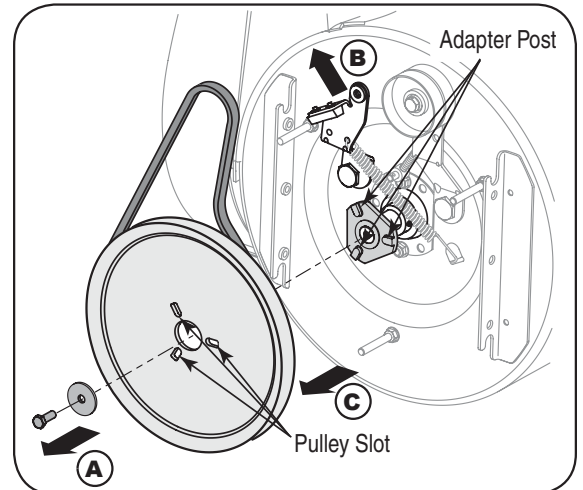

Figure 6-10
- Block the impeller with a piece of wood to prevent it from spinning and use a 1/2" wrench to remove the hex screw and washer from the center of the pulley on the auger housing. See Figure 6-10.
- Lift the brake bracket assembly out of the pulley groove and slide the pulley assembly off the posts of the auger pulley adapter to remove the old belt. Refer to Figure 6-10.
- Turn the pulley as necessary to align its three slots approximately with the posts of the pulley adapter, then move the brake bracket assembly away from the input shaft. While aligning the pulley slots and adapter posts, push the auger pulley fully onto the adapter. Refer to Figure 6-10.
**NOTE:** If the pulley adapter was removed with the pulley, align the splines of the pulley adapter and auger input shaft, and push the pulley and adapter onto the input shaft. Refer to Figure 6-10.